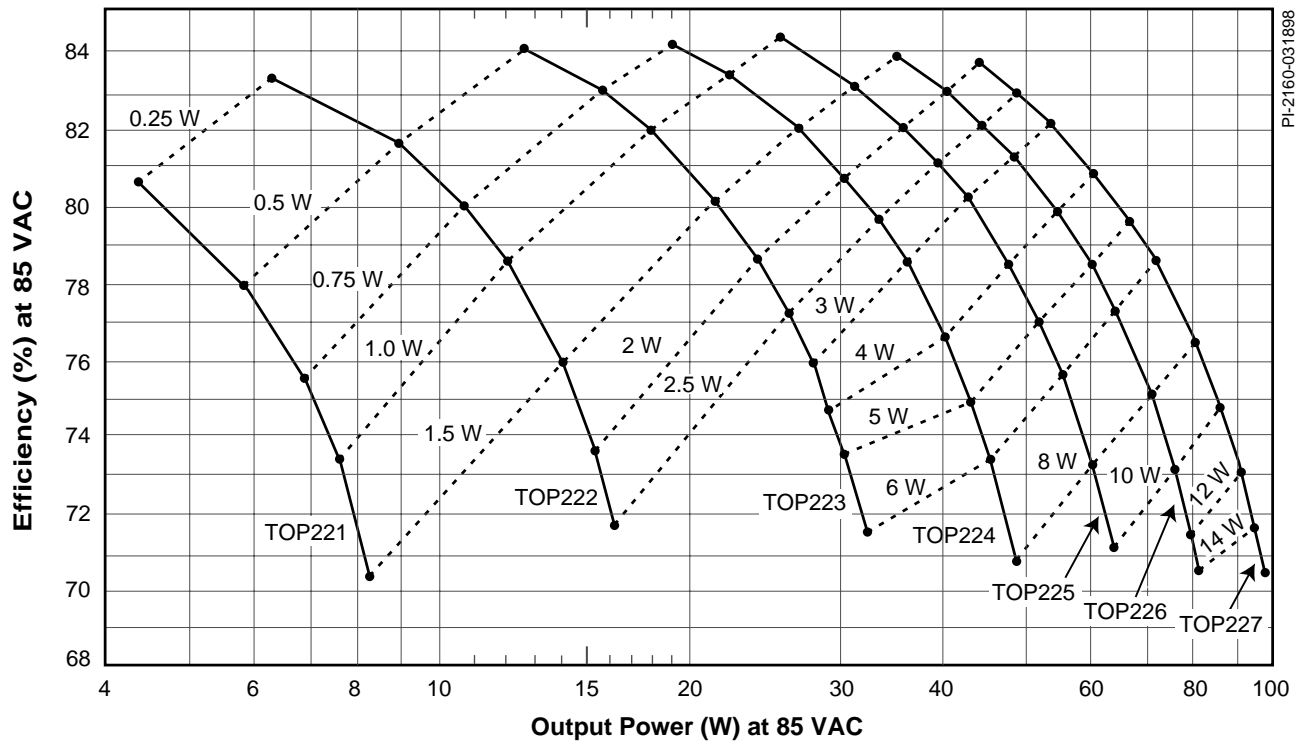
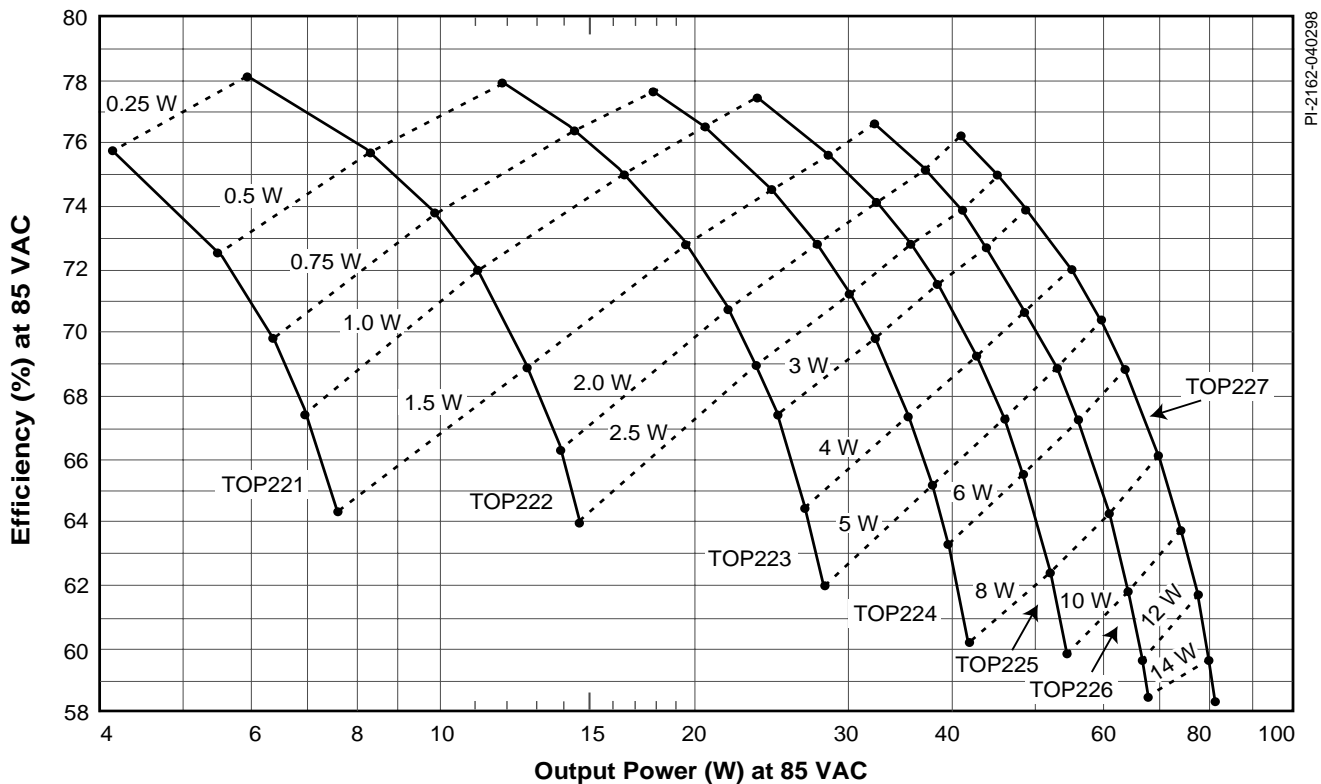
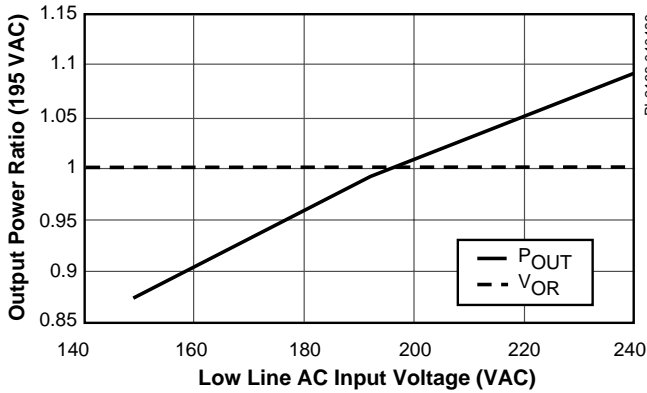
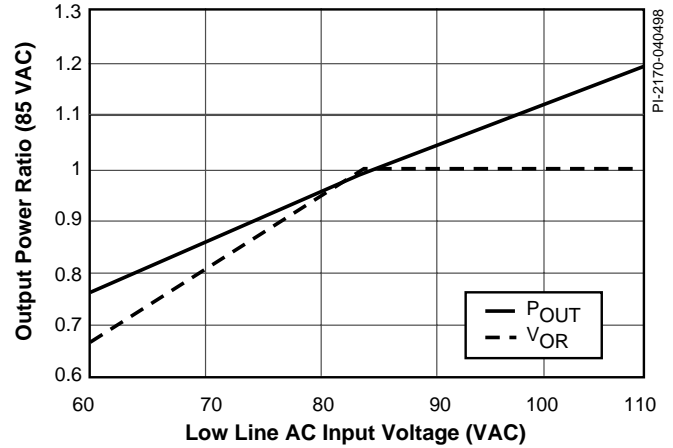

Figure 2. Typical Efficiency vs Output Power with Contours of Constant TOPSwitch-II Power Loss for Universal Input and 12 V Output.
Figure 3. Typical Efficiency vs Output Power with Contours of Constant TOPSwitch-II Power Loss for Universal Input and 5 V Output.
Figure 6. Power Ratio vs Low Line AC Input Voltage of Nominal 230 VAC.
Figure 7. Power Ratio and V_{OR} vs Low Line AC Input Voltage for Universal Input.
The *TOPSwitch-II* Flyback Quick Selection Curves consider these dissipation terms (and others as well) to provide a good estimate of expected efficiency for both Universal input and 230 VAC mains applications. Figure 2 (for +12 V outputs) and Figure 3 (for +5 V outputs) show a set of curves for efficiency and *TOPSwitch-II* power dissipation versus output power for the entire family of TOP221-TOP227 devices. These curves assume operation from a low line AC input voltage of 85 VAC, which is a suitable value for all Universal input applications.
- 1) Determine which graph (Fig. 2, 3, 4 or 5) is closest to your application.
Example: Use Figure 2 for Universal input, 12 V output.
Using Figures 2, 3, 4 and 5
Assume a +5 V application requires 30 W of output power from Universal input voltage. From the curves in Figure 3, the TOP224 can deliver 30 W with an estimated Y-axis efficiency of 71%. The projected TOPSwitch-II power dissipation is approximately 2.5W. The TOP225 can also be used with an expected efficiency of 75% and interpolated power dissipation of approximately 1.7 W. With these curves, a heat sink can be selected or evaluated immediately because an estimate for TOPSwitch-II power dissipation is now available before the design is even started!
The minimum AC input voltage has a strong influence on the choice of *TOPSwitch-II* device for a given output power. If the minimum voltage is increased above the values assumed for the curves in Figures 2 through 5, then more power will be available from each *TOPSwitch-II* device.
We can use the Output Power Ratio Curves in Figures 6 and 7 together with the original curves of Figures 2 through 5 to determine the available power for different input voltages.
Figure 6 gives a ratio curve for 230 VAC mains at low line while Figure 7 shows a similar curve for low line Universal mains applications.
Using Figures 6 and 7
The effective output power at 85 or 195 VAC mains voltage is used as the X-axis value for the curves given in Figures 2-5. The effective output power at 85 or 195 VAC will generate the same *TOPSwitch-II* loss (obtained from the curves in Figures 2-5) as the actual required output power at the modified AC input voltage. This ratio also scales the primary inductance to a value appropriate for the different input voltage. The original curves are derived from the typical values in Table 3, which is discussed later in this application note. In addition, *TOPSwitch-II* duty cycle limitations require a linear reduction in reflected voltage V_{OR} for AC mains voltages below 85 VAC, as shown in Figure 7.
Suppose an application for only the US market requires 35 W of output power at +12 V. The lowest AC input voltage is typically 90% of 115 VAC or 103.5 VAC. Find the power ratio from Figure 7 to be 1.15. The effective output power, obtained by dividing the actual output power by the power ratio, is
This effective output power is then used with the curves in Figure 2 to select the *TOPSwitch-II* device and to estimate the *TOPSwitch-II* dissipation. Predictions of efficiency and power dissipation may be less accurate when the ratio is used. The new value of primary inductance is the product of the power ratio and original inductance value in Table 3. The new inductance value for the TOP224 would be:
The value of capacitor C1 also determines the average value of the DC bus voltage. The Universal VAC Mains curves in Figures 2 and 3 were generated with an average DC bus value of 105 VDC while the 230 VAC Mains curves in Figures 4 and 5 were generated with an average DC bus value of 265VDC.